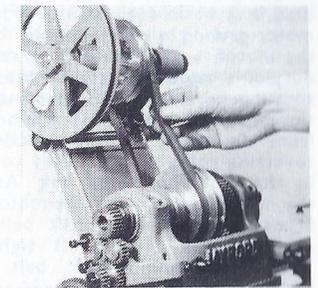

Fig. 9
g Pull the belt tensioning lever forward against the stop (i.e. with the lever and knob roughly vertical) so that the cam shaft (8) is in the full lift position. Adjust the tensioning screws (9) until the slack of the belt allows approx. ½" total movement when lightly oscillated by the thumb and forefinger. This will provide an initial tension setting, which can be increased if slip is experienced when the machine is operated. See Figs. 9 and 10.